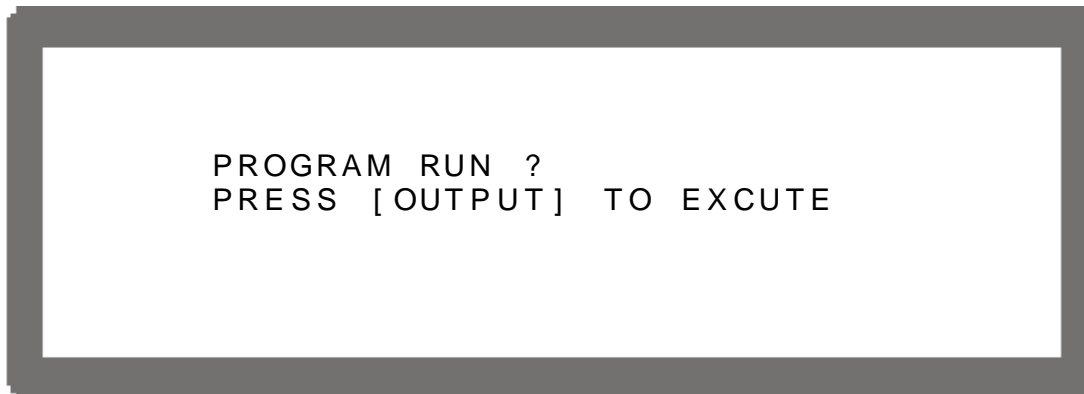

Figure 4-15
1. Pressing “” will prompt a confirmation page as Figure 4-15 shows.
1. Pressing “” in the Program page (Figure 4-3) or Sequence page (Figure 4-8) will prompt a confirmation page as Figure 4-15 shows.
1. Pressing “” will prompt a confirmation window as Figure 4-15 shows.